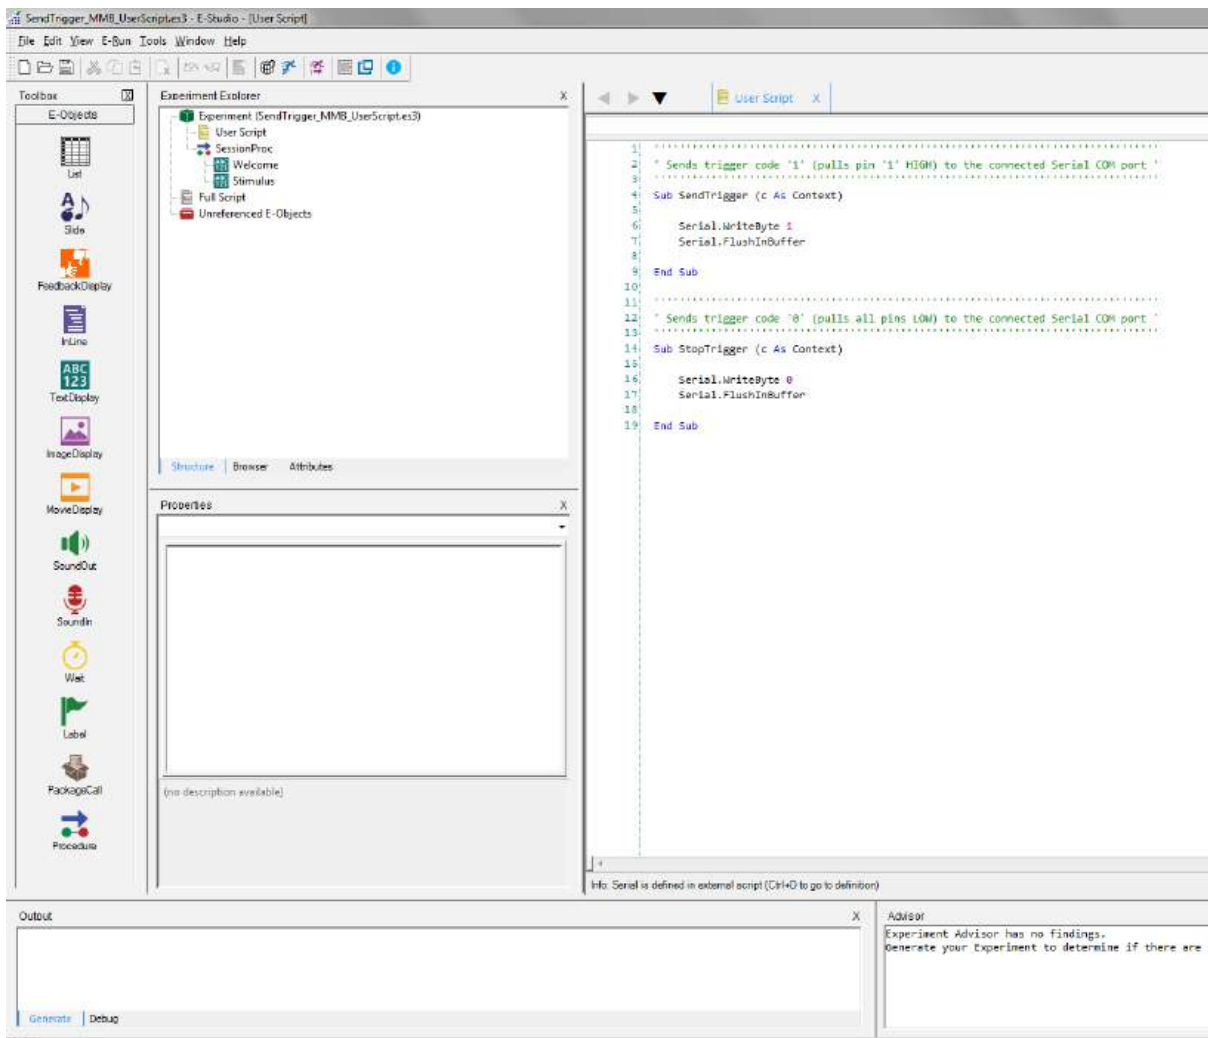

Figure 13: E-Prime User Script Example for Sending Trigger Markers
**Please note:** if the MMBT-S is set to Simple Mode, make sure to use two functions. The first function sets the according pin to HIGH (i.e. "sends a trigger") and the second function to bring all pins to LOW (i.e. "stops the trigger"), as in the example above (Figure 13). Read chapter 2.3 for more information on the different Runtime Modes.